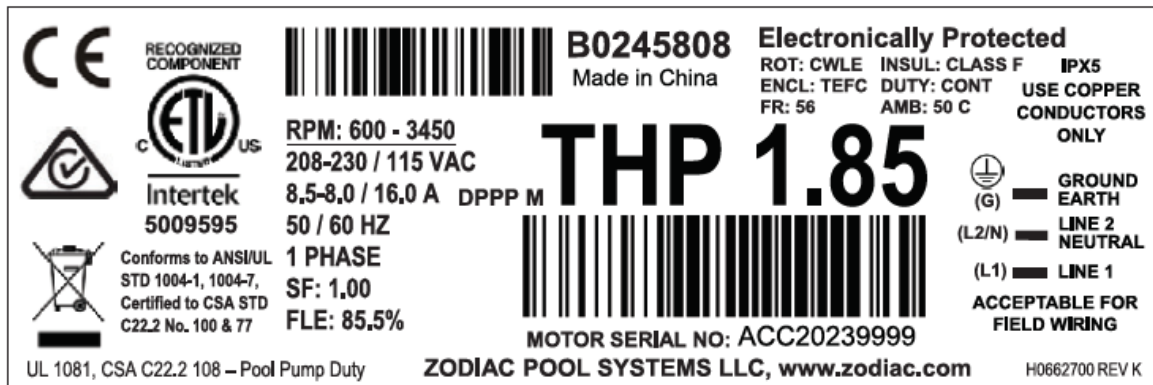

Figure 11. Motor Rating Plate Label
- 1. Please refer to the motor rating plate label to find the motor serial number (Figure 11).